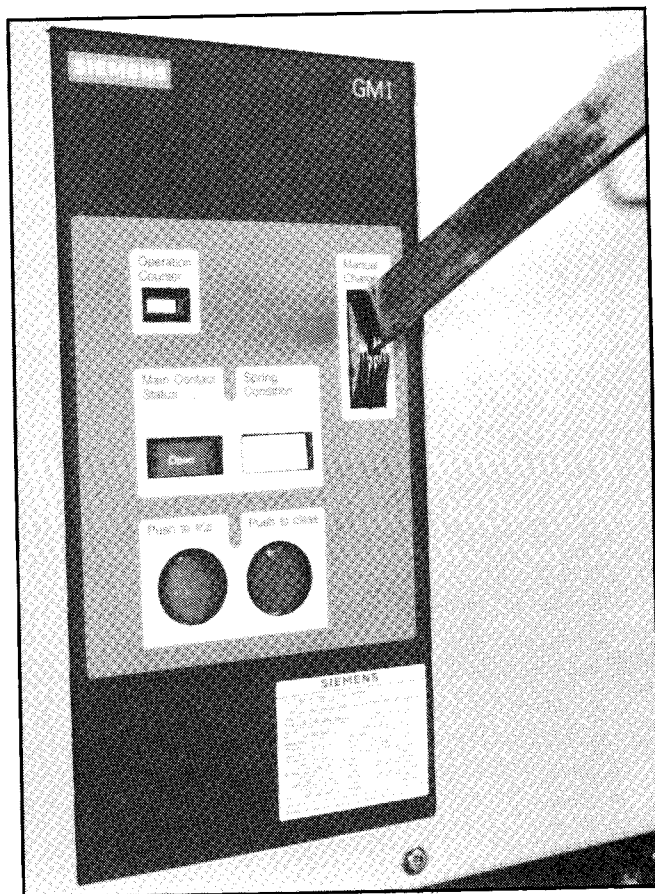

Figure 6. Manual Charging of Closing Springs.
1. Insert the manual spring charging lever into the manual charge handle socket as shown in **Figure 6**. Operate the lever up and down until the spring condition indicator shows the closing spring is Charged.